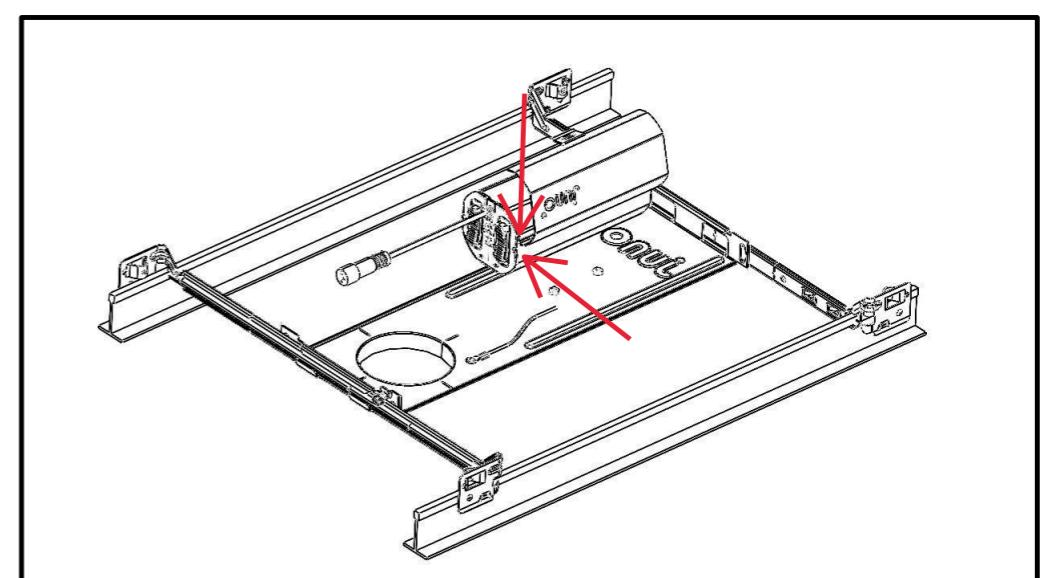

Figure 5
3. Attach the wafer junction box to the frame by aligning the keyhole slots on the remote driver box with the screws on the frame and sliding the box down to secure. See fixture installation instruction sheet for wiring method. (See Figure 5)